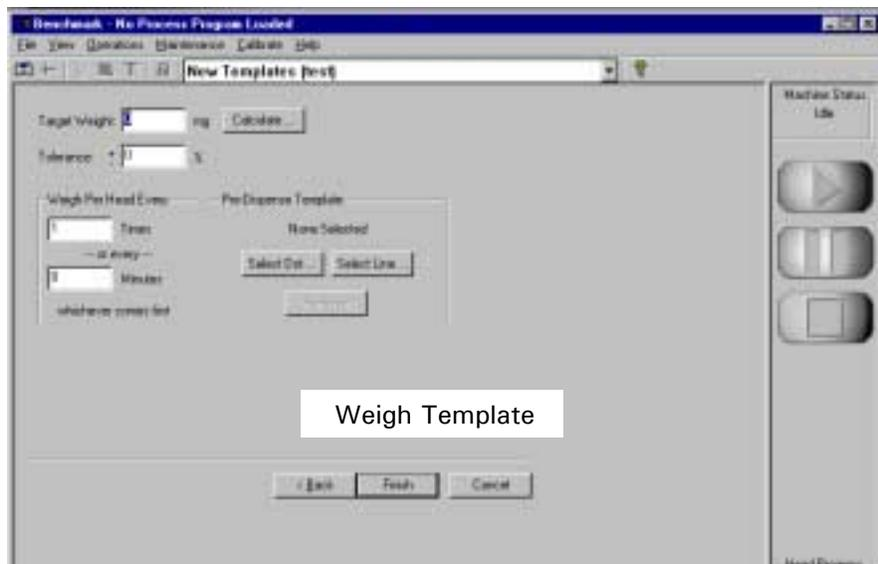

Figure 10
The Weigh Template appears. See Figure 10.
The weight scale parameters for Dot and Line templates both use the same software, the fields from Figure 10 are described as follows:
1. Select the Calculate button (see Figure 10), if the value in the **Calculated Weight** field is acceptable, select the **OK** button.